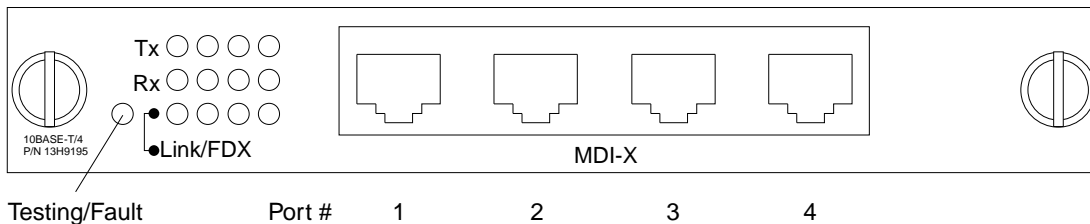

Figure 1. 4-Port 10BASE-T UFC LEDs and Connectors
- Step 3.** Verify that the unlabeled Testing/Fault LED on the UFC is off. See Figure 1 on page 2 for the location of the LED. If it is off, continue with “Configuring the UFC” on page 6.